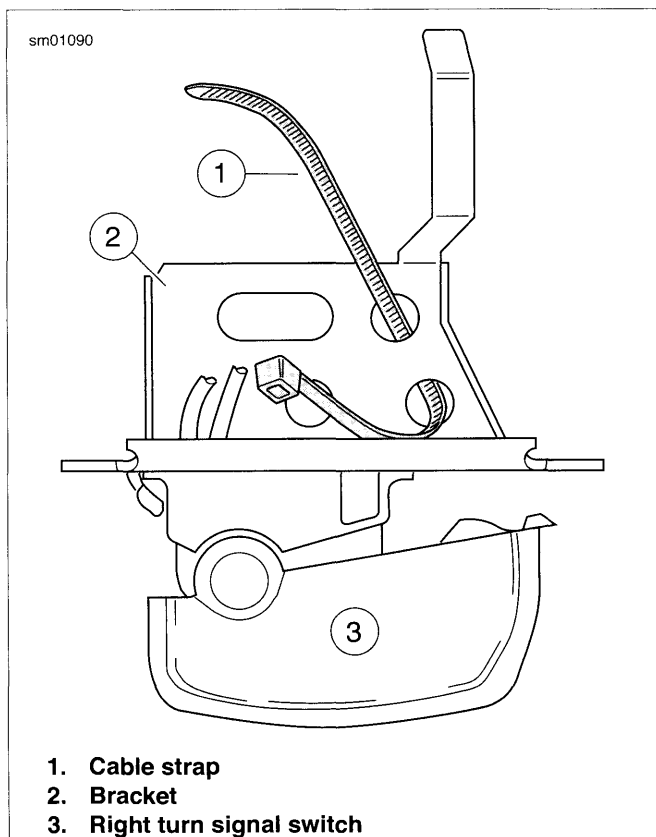

Figure 6-133. Insert Cable Strap in Switch Bracket
- See Figure 6-133. Insert tapered end of **new** 7.0 in. (177.8 mm) cable strap (1) into round hole in turn signal switch bracket (2) and then feed back through using the adjacent hole. Reserve the oblong hole for the bracket screw.